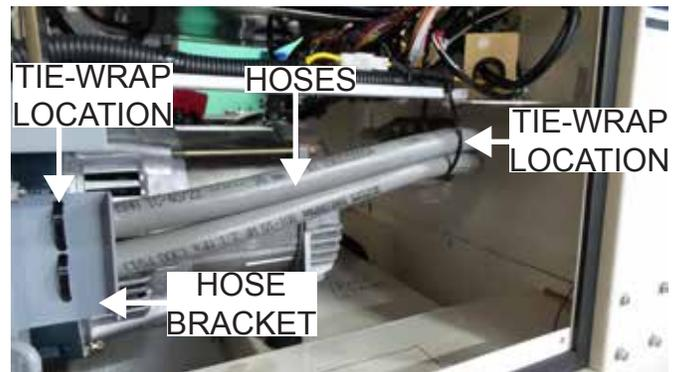

Figure 12. Tie Wrap Installation
5. Use the provided tie wraps (4) to route, hold, and raise the hoses (Figure 12) high enough for oil to flow back into the engine.